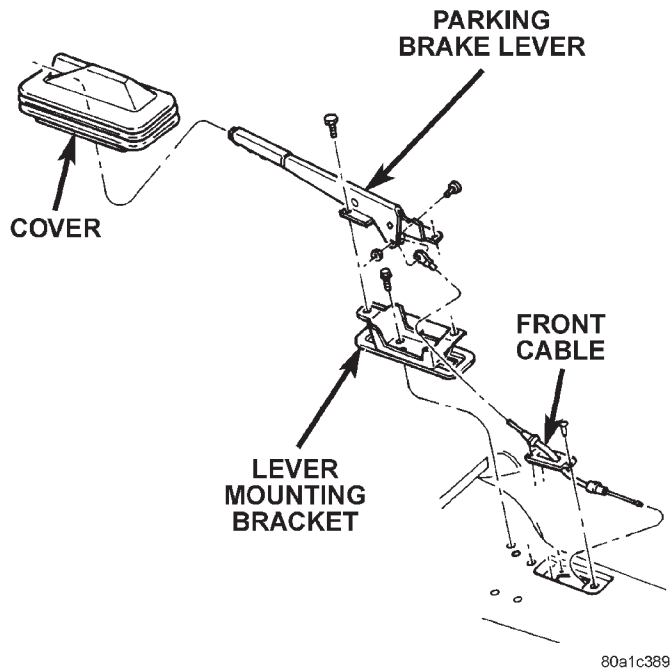

Fig. 38 Parking Brake Lever
- (7) Remove screws attaching parking brake lever to mount (Fig. 38).
- (8) Disengage front cable from parking brake lever and remove lever assembly from vehicle.